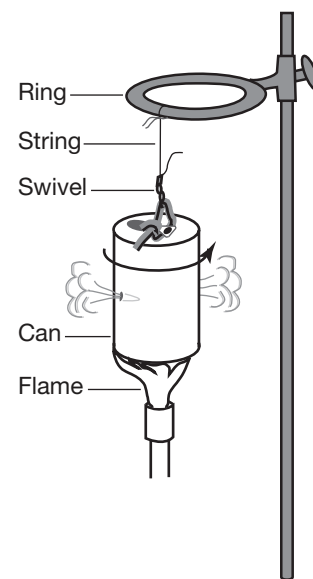

Figure 5.
- Attach a ring clamp to a support stand, and tie a length of string to the outside edge of the ring. Tie the other end to the fishing swivel about 1 cm below the ring, and cut off any extra string. Reattach the loop of string by sliding it under the pull tab as in Step 1 (see Figure 5).
- Establish a cool flame on a Bunsen burner and place it under the can, adjusting the ring height if necessary (see Figure 5).